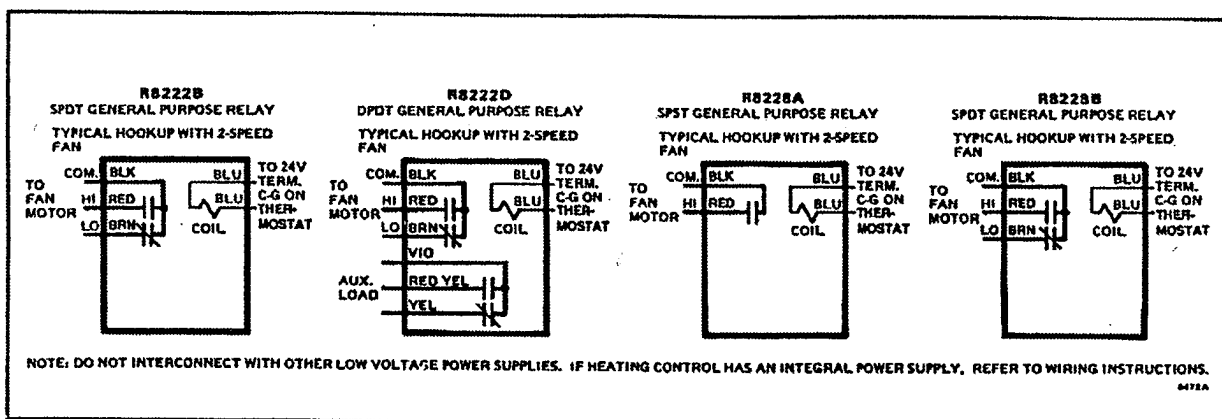

Fig. 8—Typical relay wiring hookups for Q633A Plate-mounted Relay Receptacle.
1. Use Fig. 8 to determine the leadwires required for the relay and the desired application.